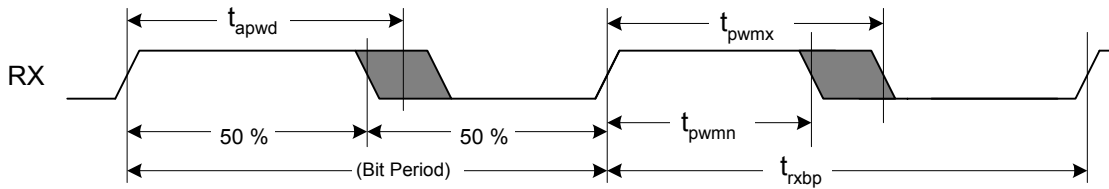

Figure 6-2: RX Pulse-Width Distortion Timing
- The average (APWD) spec, defined as $t_{apwd} = \frac{t_{pwmx} + t_{pwmn} - t_{rxbp}}{2}$, is illustrated in Figure 6-2. The FLT pin is a high-impedance node; therefore, leakage current should be kept below 1 μ A, or average pulse-width distortion tolerance could be adversely affected.